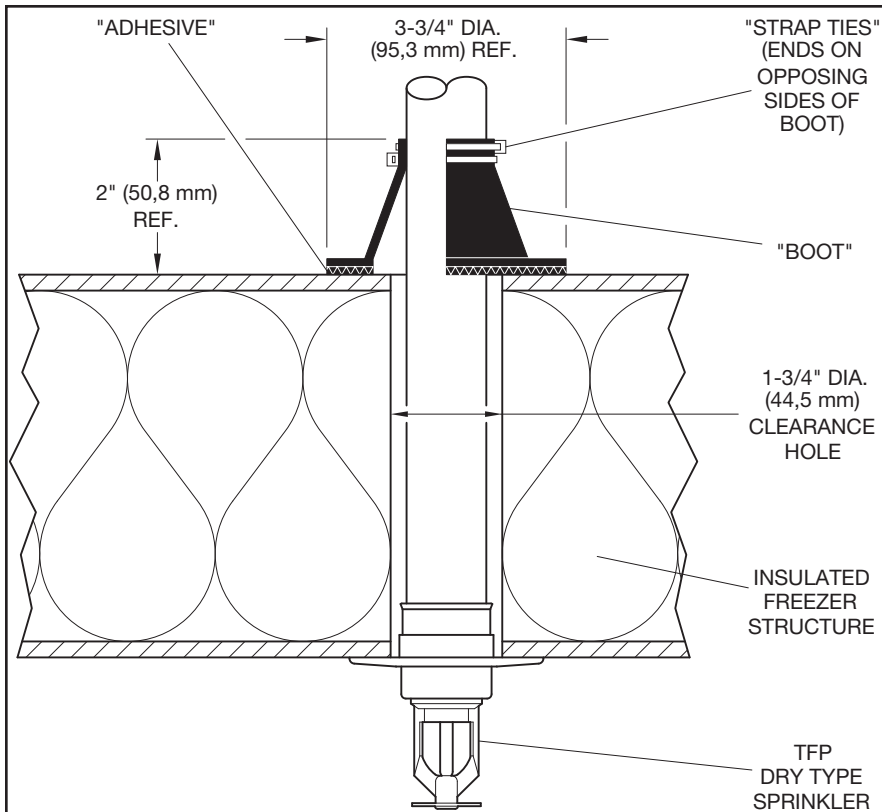

FIGURE 1
The TYCO Model DSB-2 Dry Sprinkler Boot (Ref. Figure 1) is designed for use with TFP Dry Type Sprinklers. When properly installed, it will help close the air gap created by the clearance hole through a wall or ceiling through which the dry type sprinkler has penetrated.
The Model DSB-2 Dry Sprinkler Boot may be used with a maximum 2-1/2 in. (63,5 mm) diameter clearance hole (i.e., the diameter of the hole in the ceiling or wall being penetrated by the dry type sprinkler, Ref. Figures 1 or 2). Based on the diameter of the Dry Type Sprinkler Barrel, the designated maximum clearance hole will compensate for non-centering of the Dry Type Sprinkler Barrel within the clearance hole. Where centering can be maintained, a clearance hole as large as 3 in. (76,2 mm) in diameter can be accommodated.
Step 7. Wait two minutes to allow the Adhesive to sufficiently cure and then apply the two Strap Ties. The Strap Ties are to be applied to the straight section of the Boot as shown in Figure 1 and so that the ends are on opposing sides of the Boot.